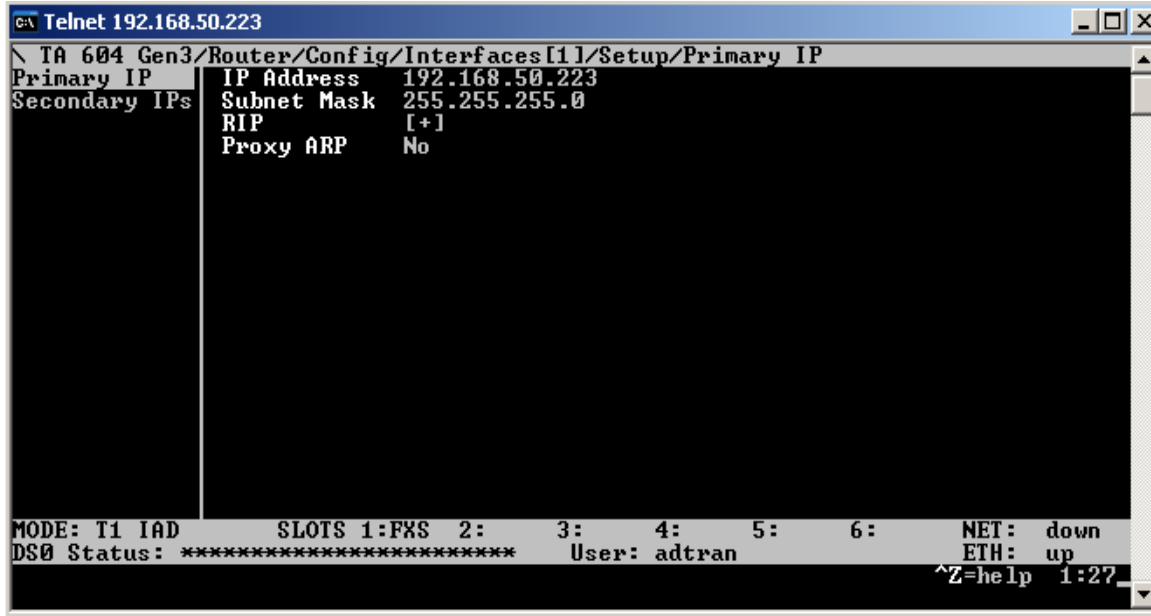

Figure 4 – Primary IP menu
- From the Primary IP menu, configure IP address and subnet mask for the TA 604/608 as shown in Figure 4.